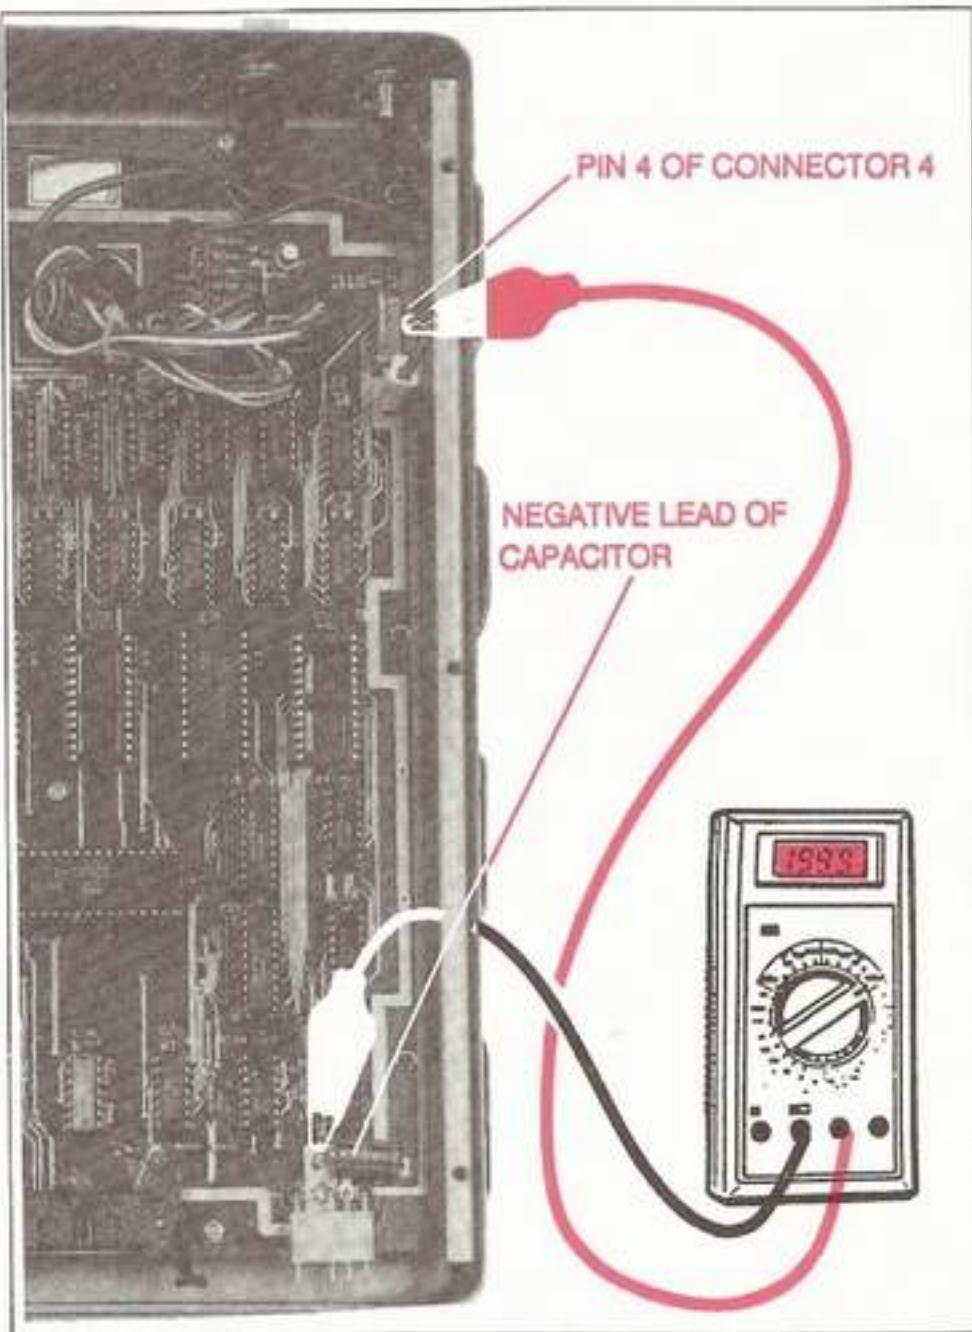

Fig. 89: The DC Voltmeter Connection
- d. Connect the dc voltmeter, as shown in Fig. 89. The **BLACK** lead should be clipped to the **NEGATIVE** lead of the power input capacitor, **C0**. The **RED** lead should be clipped to the wire which is plugged to Pin 4 (**DB0**) of Connector 4.
- ____ d. Connect the dc voltmeter as shown in Fig. 89. The **BLACK** lead is clipped to the **NEGATIVE** lead of the power input capacitor, C0. The **RED** lead is clipped to the wire plugged to Pin 4 (DB0) of **Connector 4**.